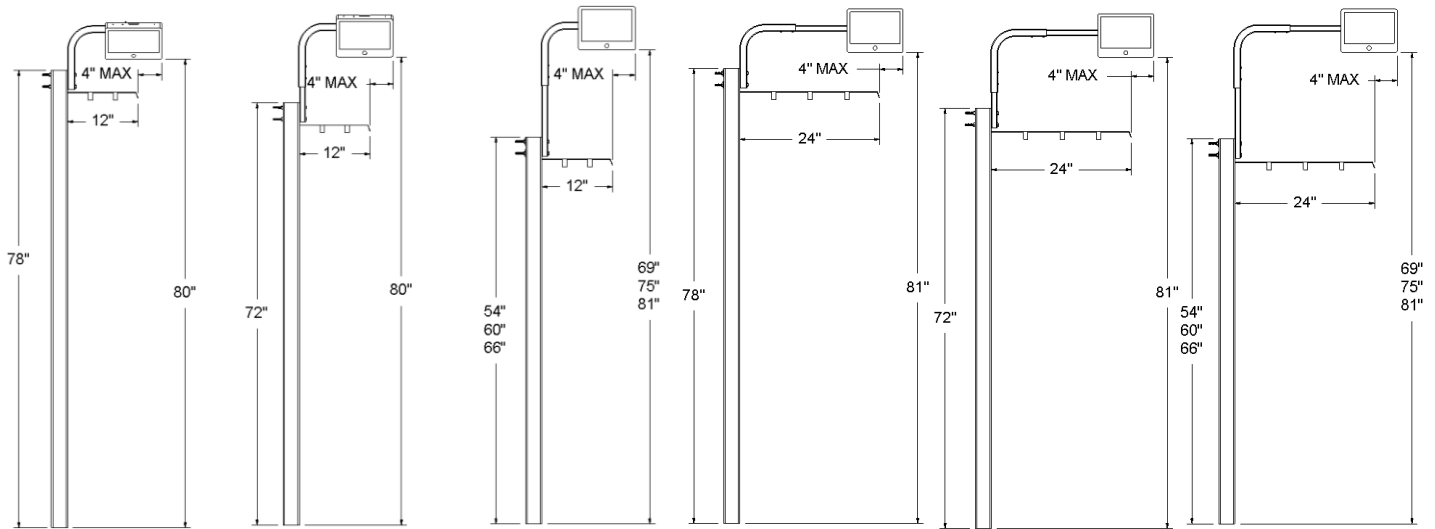

Fig. 1. Custom Mounting Options
- Please refer to some examples below. See Fig. 1.